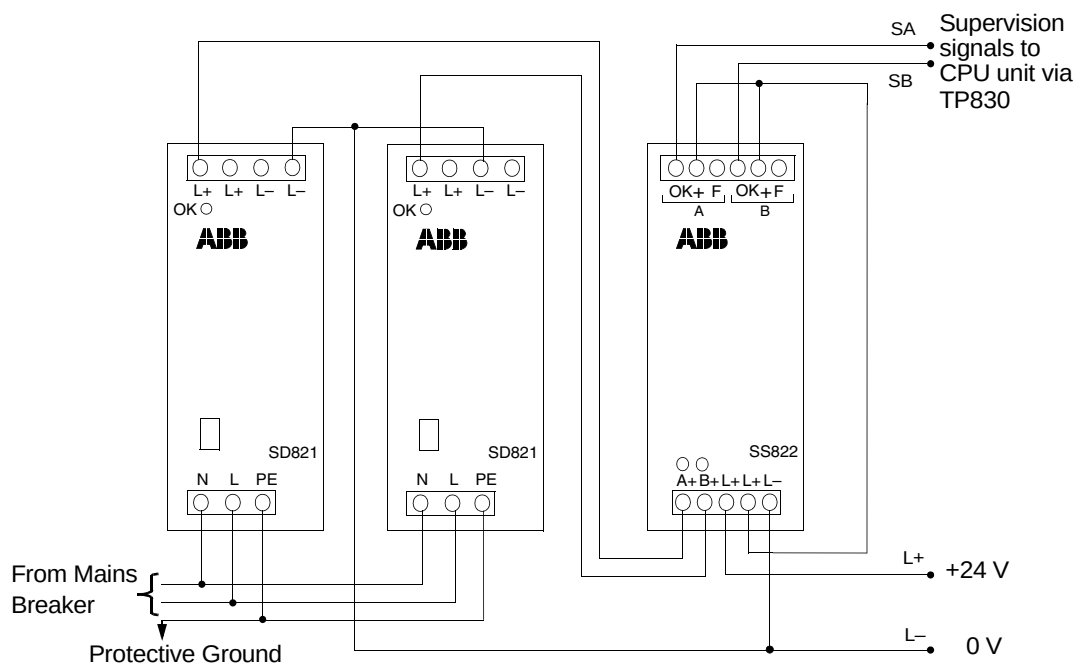
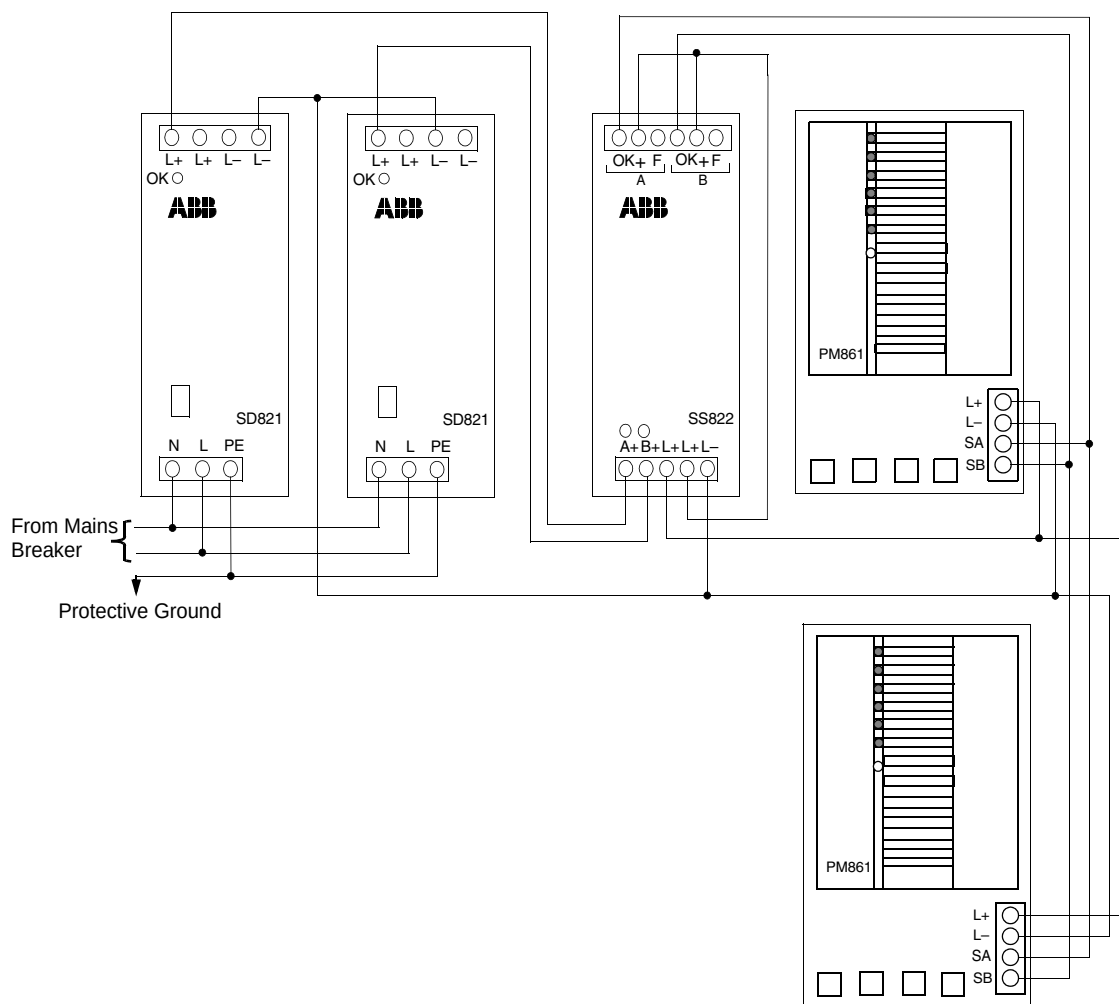
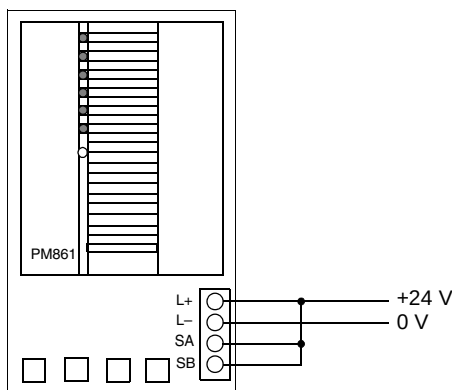
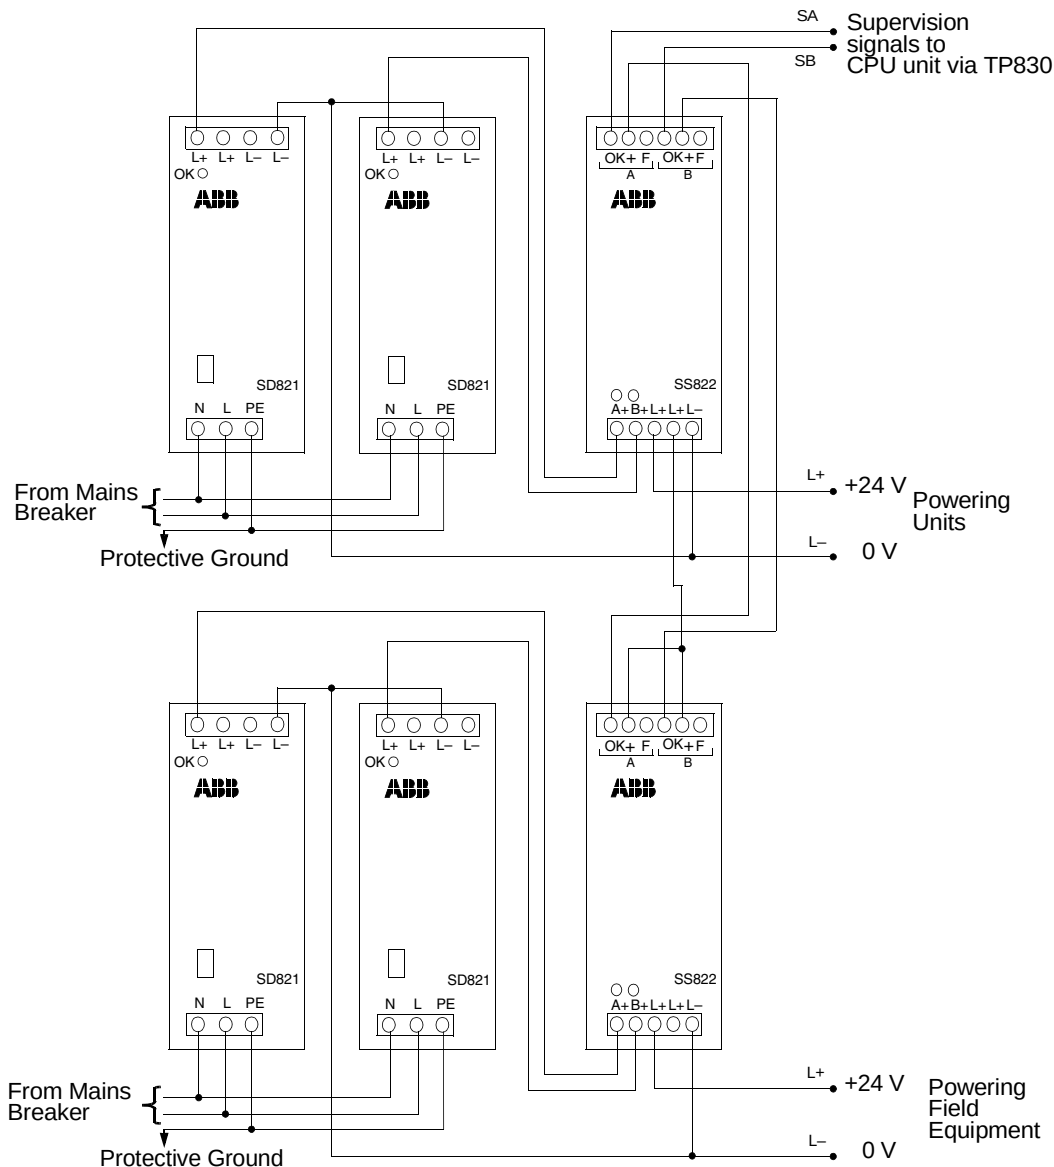

Figure 19. Redundant Power Supply
Figure 20. Redundant Power Supply Powering Redundant CPUs
Figure 21. Connection of SA/SB using Single Power Supply
Figure 22. Redundant Power Supply Powering Units and Field Equipment
The SS822 voting unit is used to connect two redundant power supplies to a common load. Depending on the system configuration requirements, the two redundant power supplies may be connected to completely separate mains supplies or to the same mains supply, as shown in Figure 19 on page 81.
2. Connect the voting unit to the selected SD821/822/823 power supply units, in required configuration. See Figure 19 on page 81.
3. Connect the SS822 voting unit to the processor unit. Figure 20 on page 82 shows the connection to PM861/PM864 in redundant configuration.
+ 24 V on the SA/SB indicates working power supplies. 0 V on SA/SB indicates an error in the corresponding power supply and lack of redundancy. SA/SB signal connection is shown in Figure 19 on page 81, Figure 20 on page 82, Figure 21 on page 83 and Figure 22 on page 84.
Figure 19 on page 81 and Figure 20 on page 82 show redundant power supplies powering AC 800M units. Here the SA/SB signals also indicate physical power supplies.
Figure 22 on page 84 shows one redundant power supply powering the AC 800M units and one for powering field equipment. An SA/SB error indication can not indicate which physical power supply that has failed, only that there is a failure.
To avoid error indications from SA/SB when single power supply is used, it is recommended to connect the input terminals SA/SB on the CPU to +24 V, see Figure 21 on page 83.